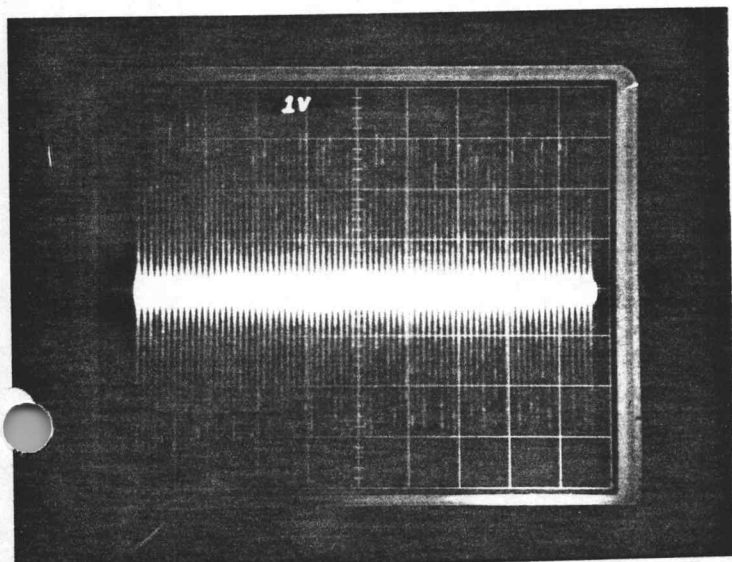

Fig. 3
- E. Turn span pot to 3.0 (FCW) and rotate frequency pot back down to 0 watching the center line for a shift. Fig. 3